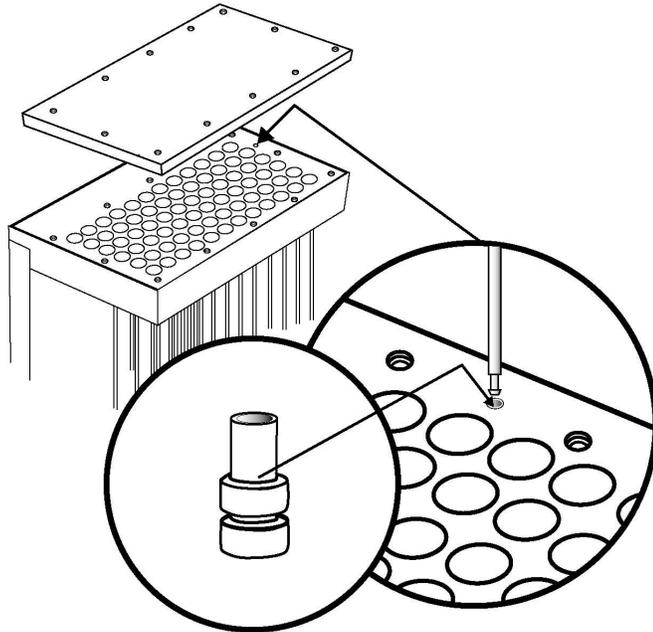

Figure 5-1: PTFE Tip Replacement (Showing Tip for 100 μ L Syringe)
5. Use a Phillips-head screwdriver to remove the screws from the head cover plate and then remove the head cover plate. See Figure 5-1.